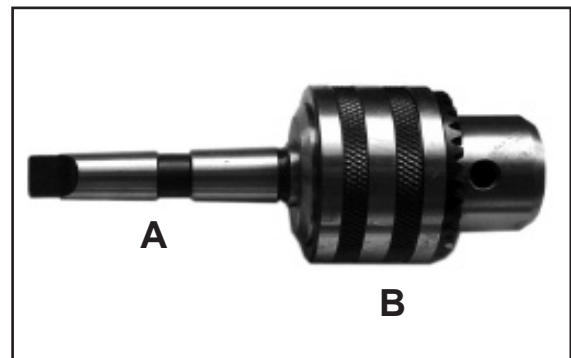

Figure 9
2. Insert the arbor (A-Fig.9) into the chuck (B-Fig.9) as shown.